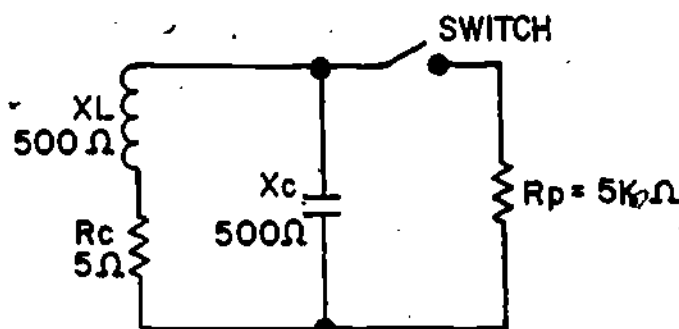
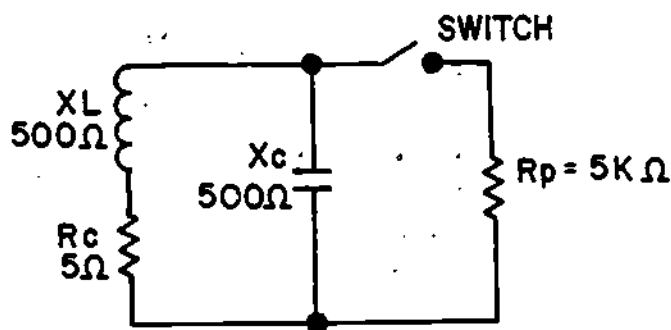

Figure 17
Figure 18
- (18.) You have learned to apply Q to tank circuits. Now you will learn to apply Q to a loaded circuit in which the tank is a part. Figure 17 shows a loaded circuit which includes a tank, a switch, and a parallel load (R_p).
The resonant tank in Figure 17 relates Q to a practical circuit. The Q of the tank with the switch open is calculated by a method with which you are familiar, and equals $\frac{500 \text{ ohms}}{5 \text{ ohms}}$, or 100. However, when the switch is closed, the tank will deliver energy to the parallel load which is
19. Figure 18 again shows the loaded tank circuit from Figure 17.
The formula for the Q of the loaded tank circuit is expressed as $Q_{ckt} = \frac{R_p}{X_L}$ or $\frac{R_p}{X_C}$. This formula is different from the formula for Q of a tank. In Figure 18, X_L equals X_C which equals 500 ohms, and R_p equals 5 kilohms. The Q of the circuit with the switch closed equals $\frac{5 \text{ kilohms}}{500 \text{ ohms}}$, or 10.